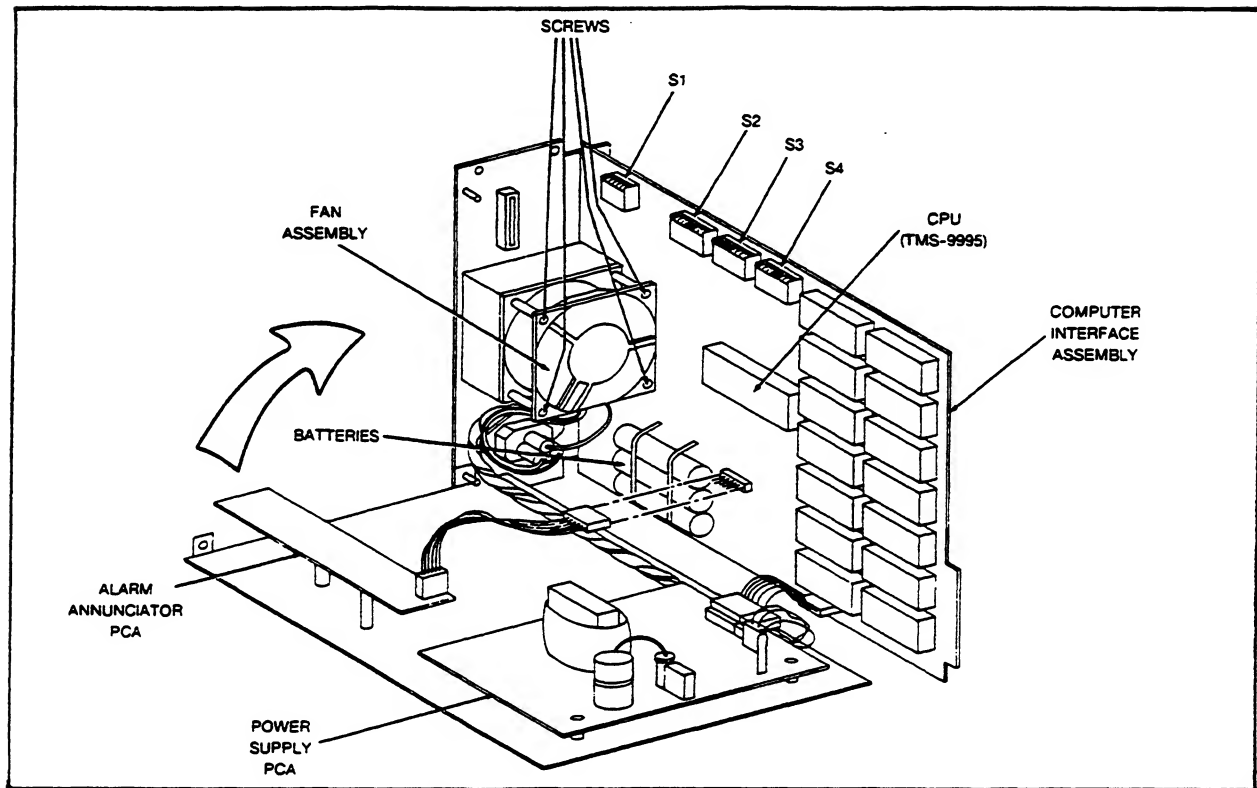

Figure 9A-9. Computer Interface Module (Interior)
The Computer Interface Assembly is mounted on the Computer Interface Module (see Figure 9A-9). Use the following procedure to access the Computer Interface Assembly:
3. Place jumper W9, shown in Figure 9A-8, in the "batteries disconnected" position.